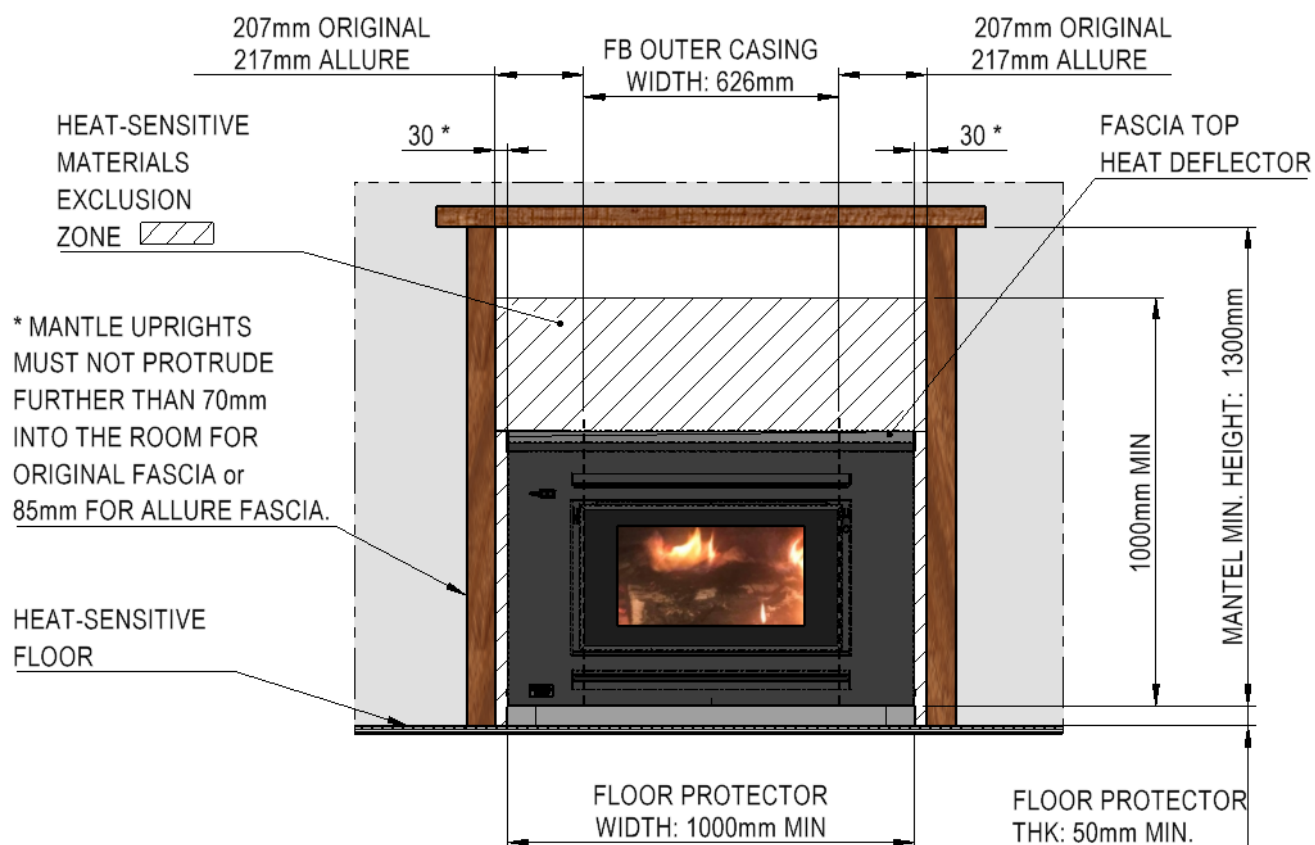

Fig 5
- E1.** Non-combustible front cladding **must be used**, to a minimum of 1000mm from the top of the appliance hearth, and a minimum of 207mm for the Original Fascia set, 217mm for the Allure Fascia, either side of the outer casing of the firebox. (Fig. 5)